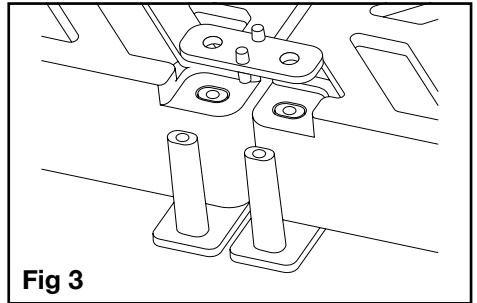

Fig 3
- Where joining panels in the long direction, add Joiner Plates on top of the panels as shown in Fig. 3, then secure with the supplied screws.